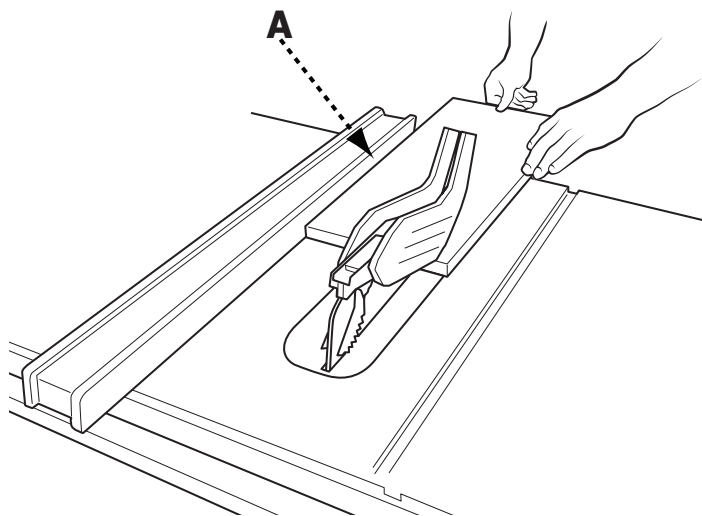

FIGURE 23
8. Hold the workpiece flat on the table and against the fence (A). The workpiece must have a straight edge against the fence and must not be warped, twisted or bowed. See proper hand position in (FIGURE 23).